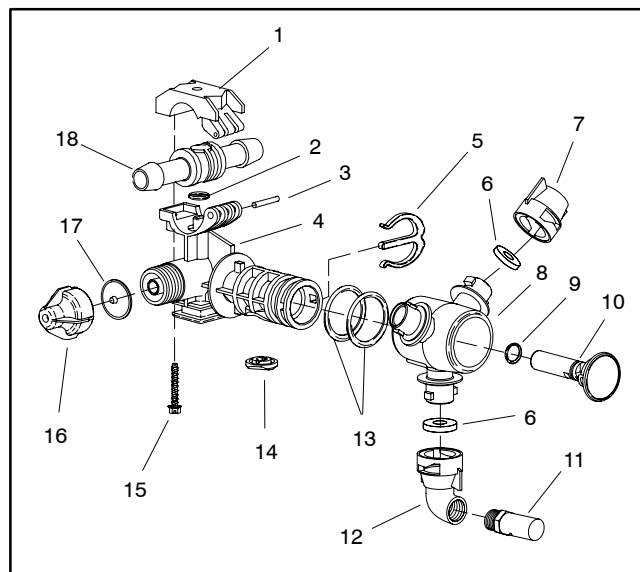

Figure 36
Disassembly (Fig. 36)
2. Disassemble turret body using Figure 36 as a guide.
Assembly (Fig. 36)
2. Assemble turret body using Figure 36 as a guide.